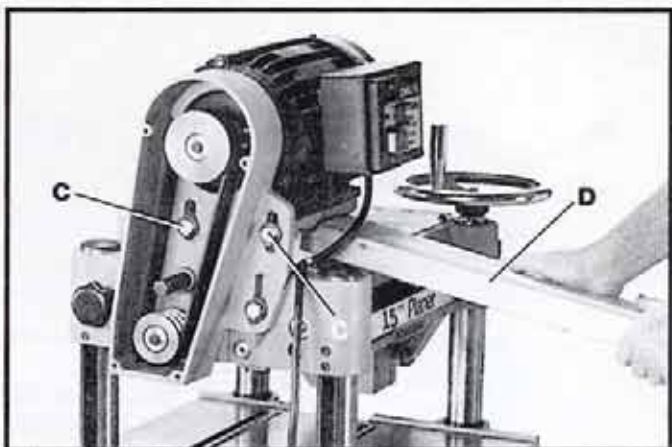

Fig. 25
3. Place a 2 x 4 (D) Fig. 25, between the motor plate and the top of the head casting as shown.
4. Loosen the two screws (C) Fig. 25, and pry up on motor plate until correct belt tension is obtained. Correct tension is when there is approximately 1/4" deflection in the center span of the belts using light finger pressure. Then tighten the two screws (C) and replace belt and pulley guard cover.